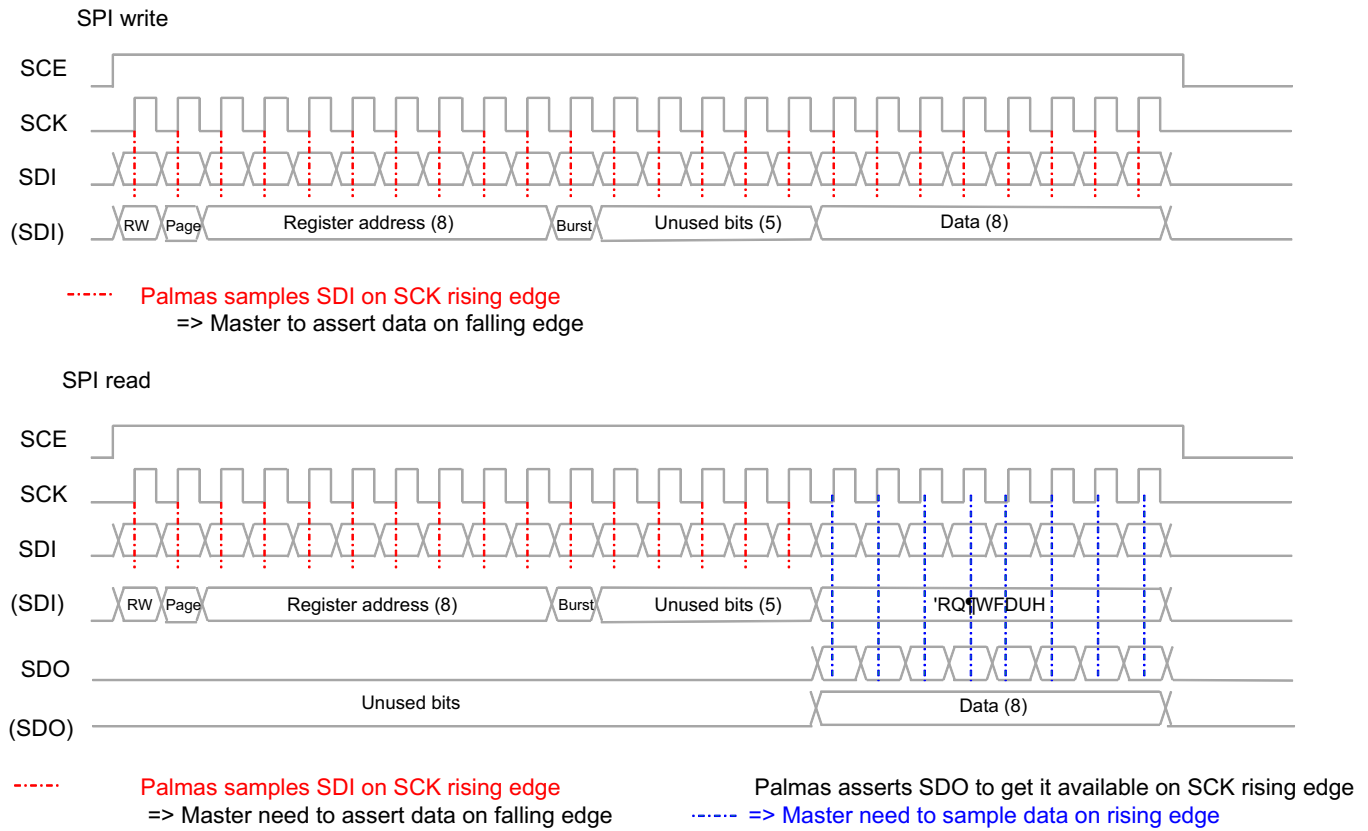

图 6-15. SPI Single Read and Write Access
- This consists of fetching and storing one single data location. The protocol is depicted in 图 6-15.